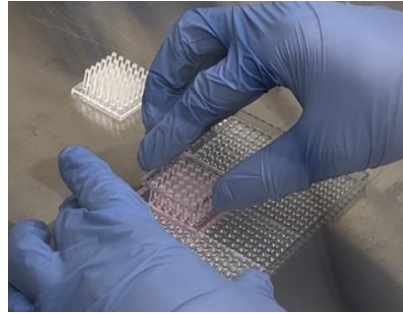

Figure 5. Stamping of the 36PillarPlate on the LoadingPlate to load Matrigel on pillars.
- Stamp the 36PillarPlate on the LoadingPlate and press gently to load Matrigel evenly on the entire pillar plate. Repeat this Matrigel loading step for another pillar plate (**Fig. 5**).